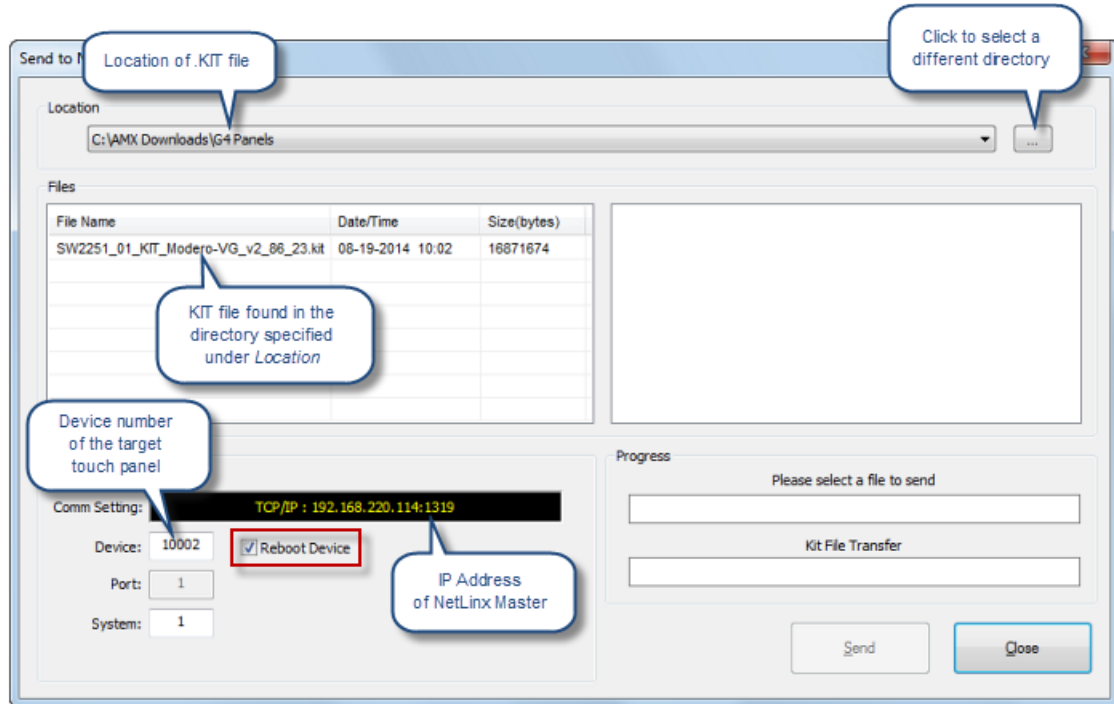

FIG. 66 NetLinX Studio - Send to NetLinX Device dialog
2. Right-click on the target panel and select **Firmware Transfer** to open the *Send to NetLinX Device* dialog. Alternatively, select **Tools > Firmware Transfers > Send To NetLinX Device** to open this dialog (FIG. 66):